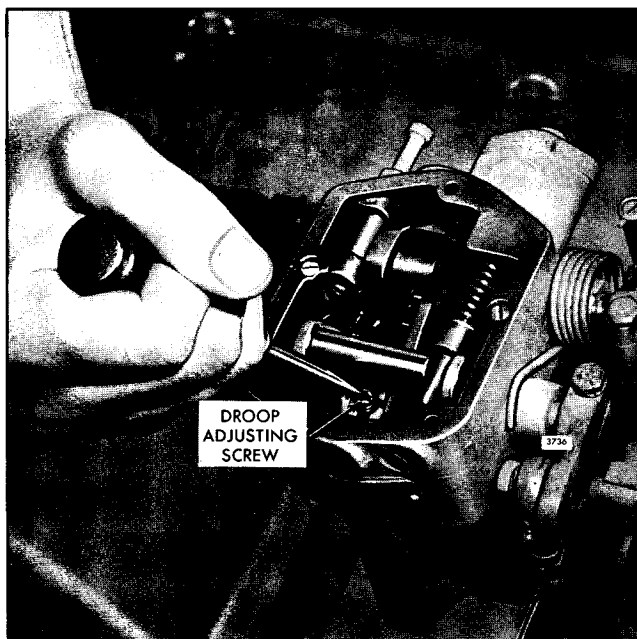

Fig. 8 - Adjusting Speed Droop
4. Loosen the droop adjusting bolt on former units or the screw on current units. Move the droop bracket so that the screw is midway between the ends of the slot in the bracket. Tighten the screw (Fig. 8).